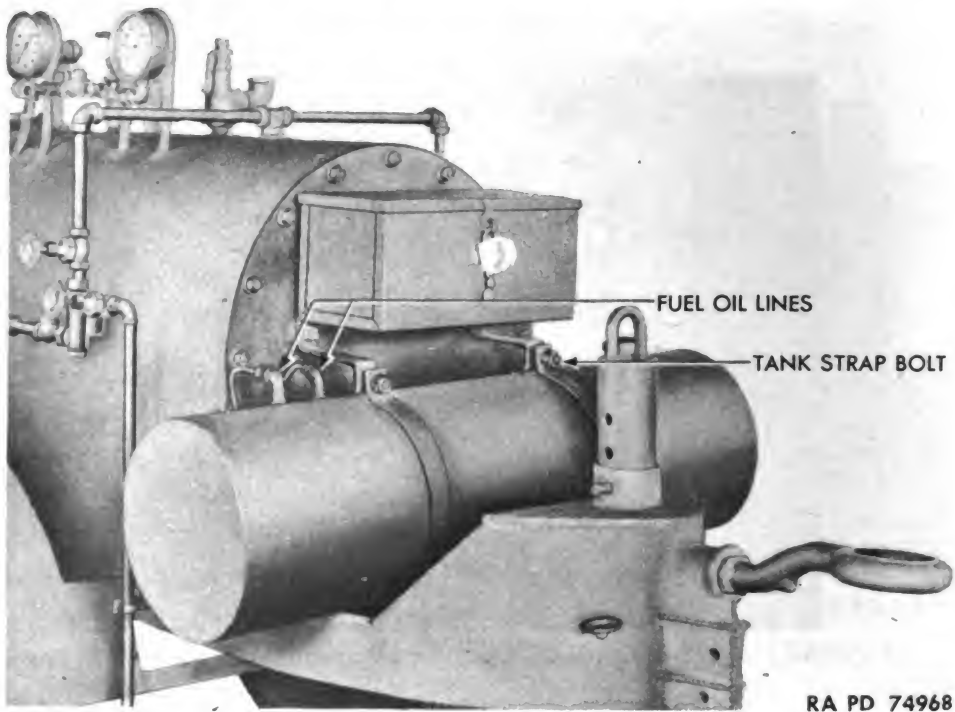

Figure 117 — Fuel Oil Tank Installed on Steam Generating Plant
(1) **REMOVAL** (fig. 117).
(2) **INSTALLATION** (fig. 117).